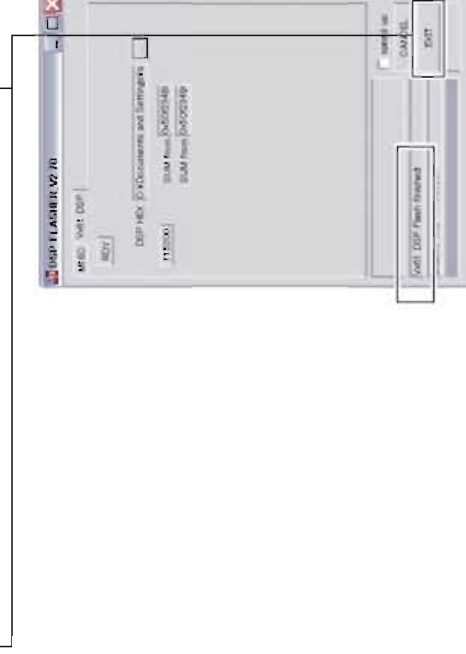

Fig. 8
7. Click [EXIT] to end DSP\_FLASHER\_v2.7.exe. (Fig. 8)